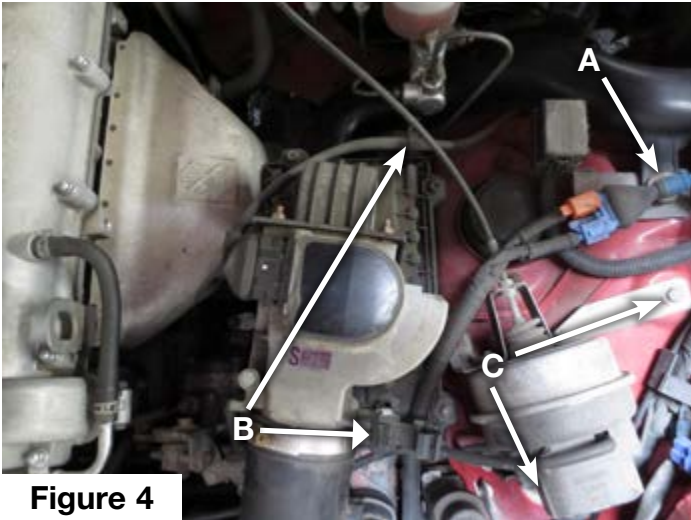

Figure 4
- 9) Locate the air box and snorkel on the driver's side of the engine bay. Remove the snorkel by unfastening the 10mm bolt which holds the snorkel, air bag connector, and the diagnostic connector. Loosen the hose clamp and grasp the snorkel where it attaches to the air box and gently pull straight out towards the rear of the vehicle until they separate. The snorkel will not be reused, but reinstall the bolt secure the diagnostic and airbag connectors. See Figure 4(A)
- 10) Detach the connector from the air flow meter using a small flat head screwdriver. There will be two clips holding the wiring to the air box that will need to be removed. Use a pair of needle nose pliers to gently release the back of the clips, making sure not to break the plastic. See Figure 4(B)
- 11) Remove the two bolts and one nut at the front, rear, and side of the air box, using a ratchet, extension, and 12mm socket. If the vehicle has cruise control, the two bolts for the actuator will also need to be removed. See Figure 4(C)